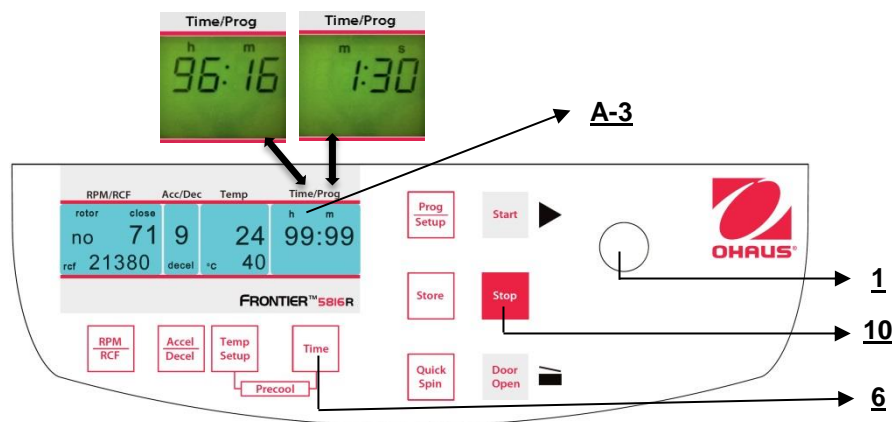

Figure. 17
3. The continuous run "cont", which can be interrupted by the key "Stop"(10) (refer to figure 17).
The display always shows the remaining running time. (See figure 17)